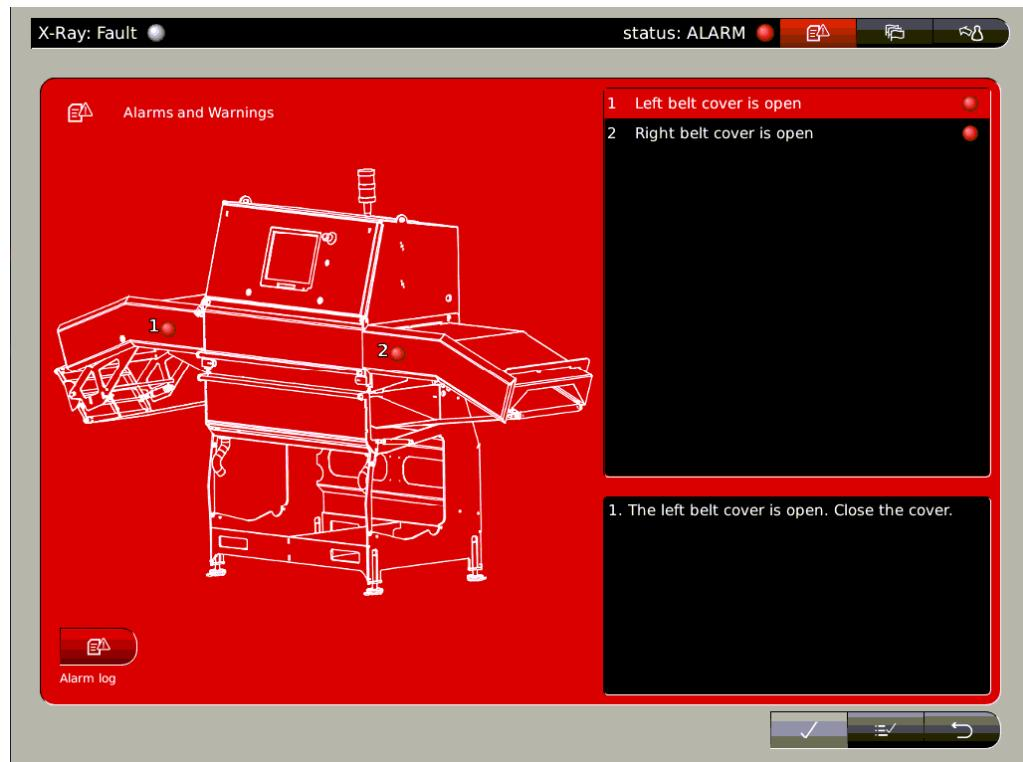

Figure 17 The Alarm page
- If you get an alarm, the system will not work. An example of an alarm is when the covers on the SensorX inspection unit are not closed. Figure 17 shows an example of what happens when the covers are left open. It shows which covers are open, and you are instructed on how to proceed.